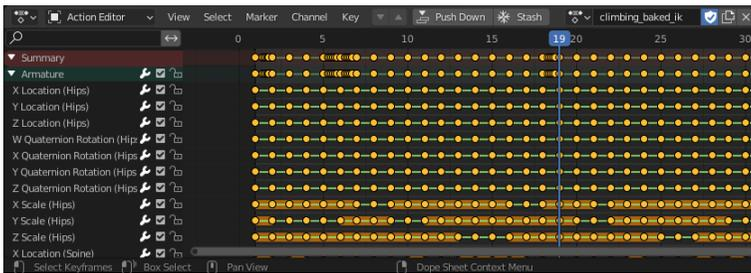

Figure 12-7 The Dope Sheet Editor
7. There are two more editor types that you will need to use for more complicated animations. The first one to look at is the Dope Sheet which allows you to see keyframe positions for a variety of different types. Change the area at the bottom from Timeline to Dope Sheet, then change the Editing context drop-down from Dope Sheet to **Action Editor**. As shown in Figure 12-7. At the top of the area some options have appeared; Push Down, Stash and a drop-down to Browse Action to be linked to the object. At the moment there is just one action, but now is a good time to rename it to `climbing_baked_ik`. When you import the Peasant Man .fbx there will be another action and this is where you will be able to swap them, to make the Peasant Man climb and to make Lola dance.